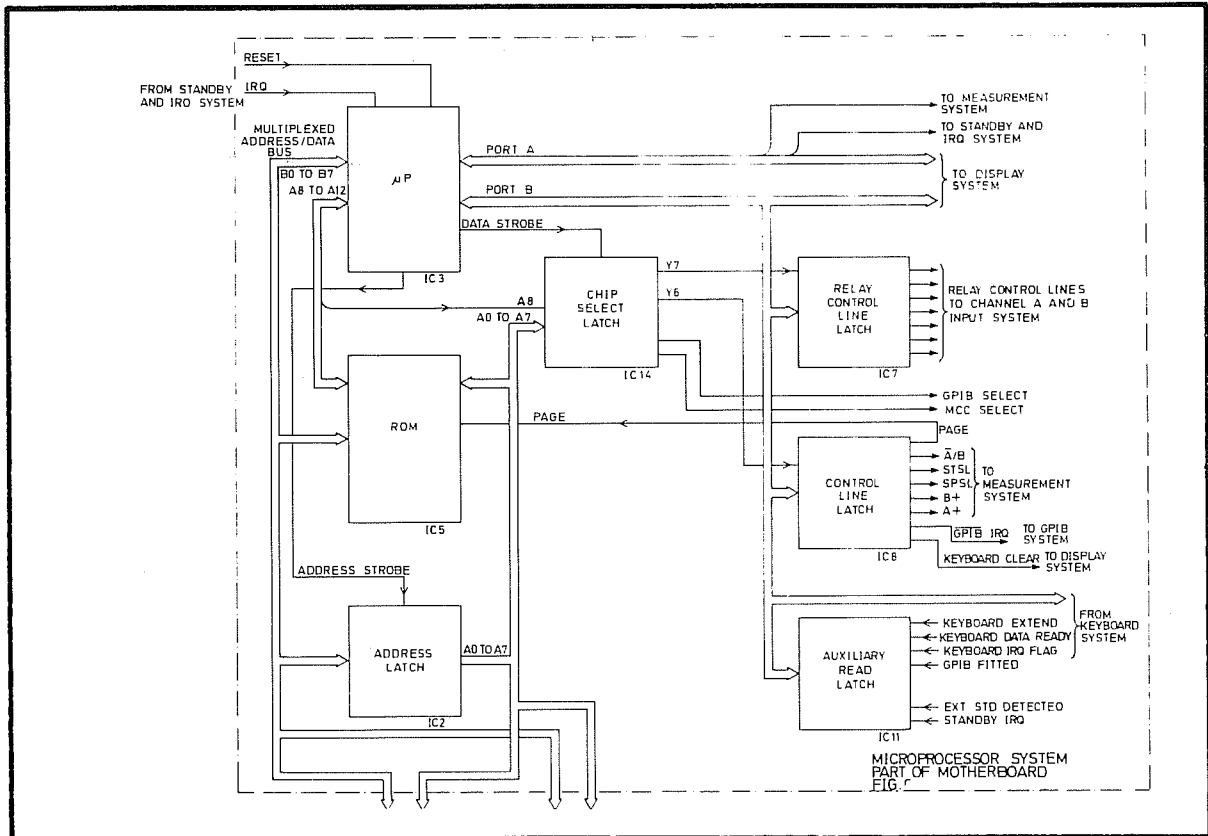

Fig 6.7 The Microprocessor System
- 54 A block diagram of the system is given in Fig 6.7. The microprocessor used has a 5-bit bus for the high-order address bits and an 8-bit multiplexed bus which is used for the low-order address bits and for data. The low-order address bits are strobed into the address latch, which holds them on an 8-bit address bus, to free the multiplexed bus for data.